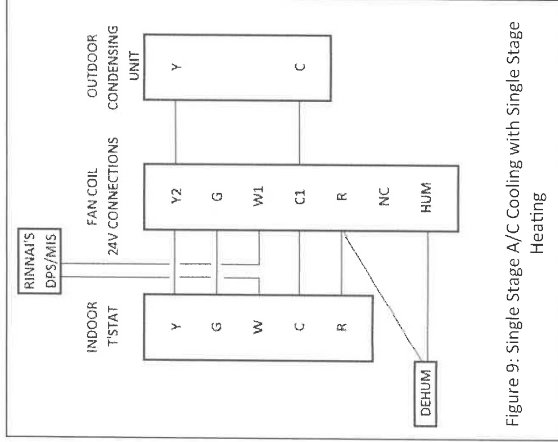

Figure 9: Single Stage A/C Cooling with Single Stage Heating
4. Attach the switch circuit board using the mounting screw provided (A). If required, adjust the position of the main wiring bundle to provide enough room.
5. Attach the harness plug labeled "S-BMS" or "Air-H" to the matching socket on the S-BMS/Air Handler Switch (C).
6. **For Air-H — Thermostat Wiring:** Using the provided crimp connectors (B), connect the white and black leads of the switch circuit board to the "W" contact on the indoor thermostat and fan coil (polarity is not important). See Table 1 and Figures 9 through 14 for additional details. Final crimp connector should be connected to the unused red wire lead on the switch circuit board.